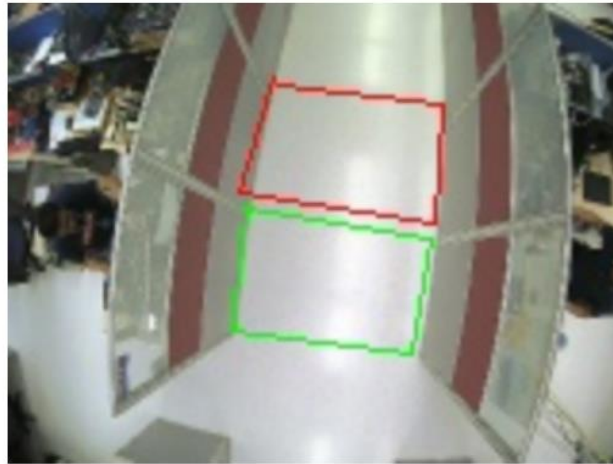

Figure-28 Counting Area
- (1) The red and green area **must not** overlap, but the gap between these two areas should be as close as possible to each other (Figure-28).